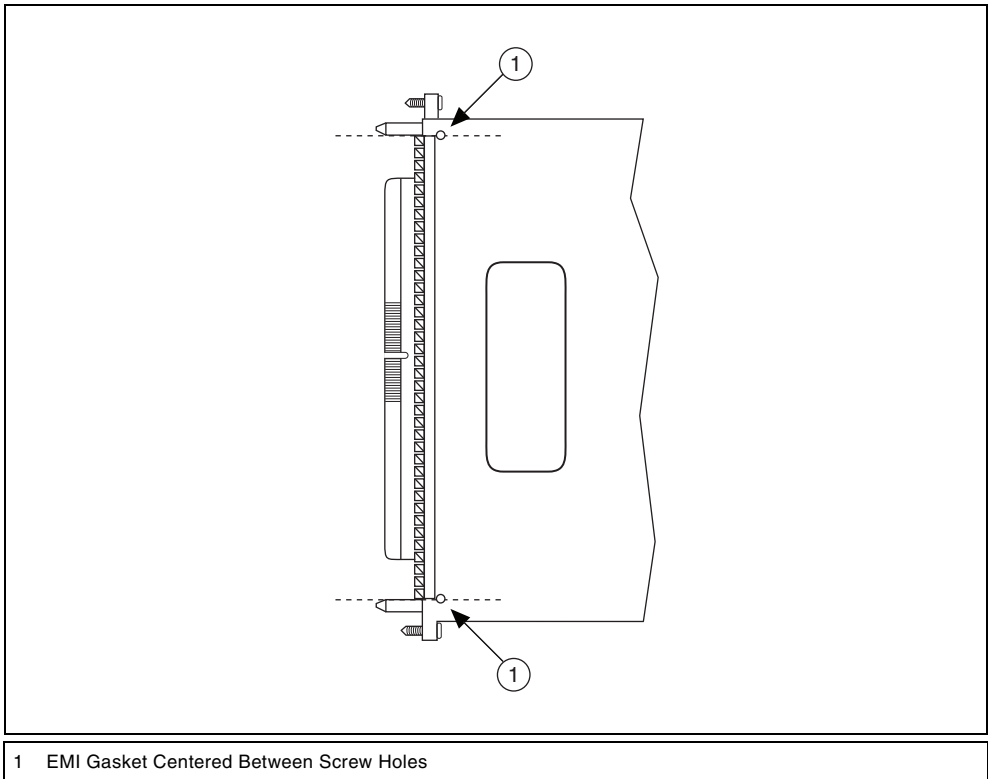

Figure 5. Vertical Placement of EMI Gasket Between Screw Holes
- e. Repeat steps a through d to place the second EMI gasket on the opposite side of the NI FlexRIO adapter module, centering it vertically between the screw holes, as shown in Figure 5.